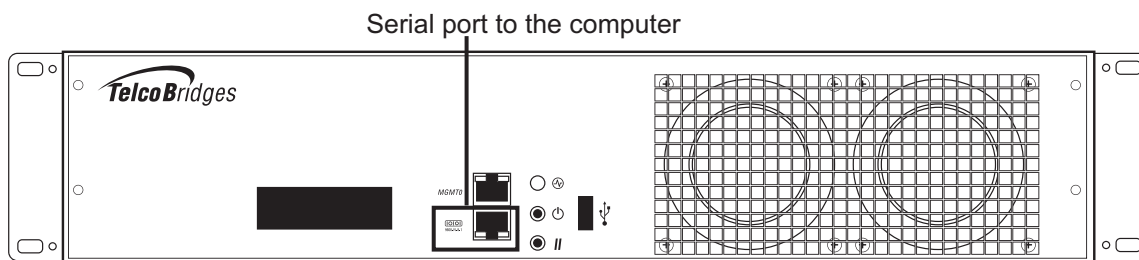

Figure 3.1 Computer to 3200 Series Gateway Serial Port Connection
1. Connect a CAT5 RJ-45 (male-male) cable (supplied with unit) between the com port of your computer and the serial port (labeled 10101) of the 3200 series gateway as shown in figure 3.1 on page 60. See Section A.2 on page 69 for a RJ-45 console wiring diagram.